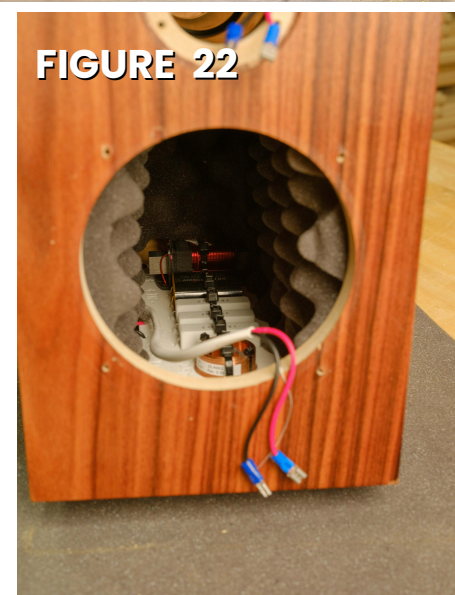

FIGURE 22
- c. Place the remaining 10.5" x 4.25" piece over the crossover board (*figure 22*)